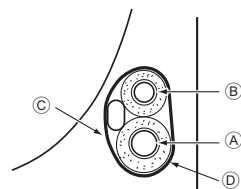

Fig. 4-4
- (A) Site-side refrigerant piping
- (B) Unit side refrigerant piping
4.4.1. Storing in the piping space of the unit (Fig.4-4)
- (A) Gas pipe
- (B) Liquid pipe
- (C) Indoor/outdoor connection cable
- (D) Felt tape ③